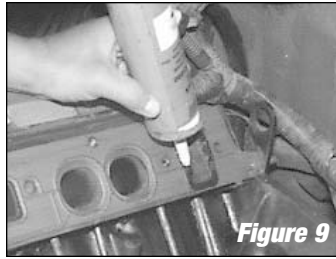

Figure 9
- With Gasket in place apply a small amount of RTV High Temp silicone sealer around water passages intake manifold side (**See Figure 9**).